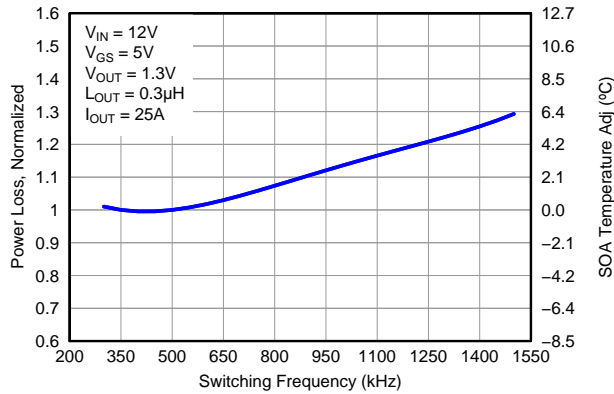

Figure 6. Normalized Power Loss vs Switching Frequency
- Normalized Power Loss for switching frequency ≈ 1.08 (Figure 6)
- SOA adjustment for switching frequency $\approx 1.8^\circ\text{C}$ (Figure 6)